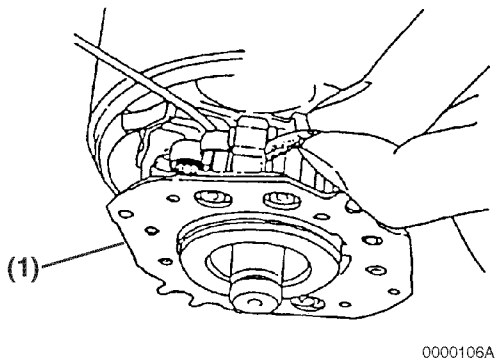

Figure 11-5
4. Pull the brush springs up using a brush spring puller. On the negative (-) side, bring the brush spring into contact with the side of the brush for lifting from the commutator surface. On the positive (+) side, remove the brush from the brush holder assembly (Figure 11-5, (1)).